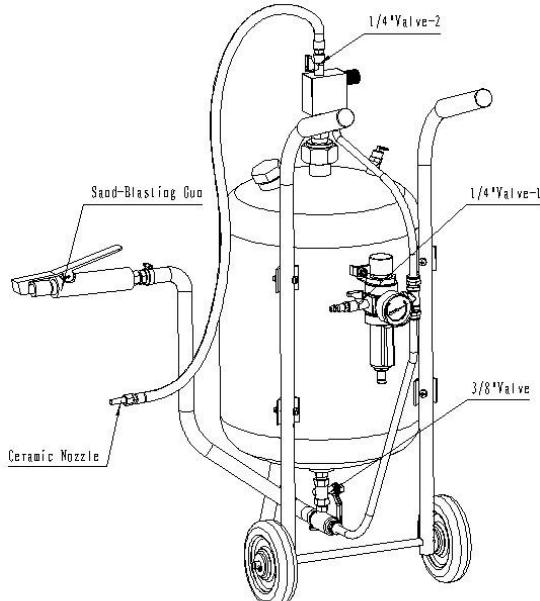

Figure 3
7. For safety, if the soda blaster will be not used at this time, shut off the air supply, turn the 1/4" Valve-1 (Figure 3) to its vertical position, and detach the air supply hose. Slowly reopen the 1/4" Valve-1 to release the trapped air pressure from storage tank. Close the 1/4" Valve-1 (Figure 3)、 the 1/4" Valve-2 (Figure 3) and the 3/8" Valve (Figure 3) to prevent moisture from being drawn into the tank.
13. Always keep the proper air pressure during operation. Please stop operation and stop the connection between the machine and air source, then release pressure from the tank if the safety valve (40) does not release while the pressure is 125psi.
3. The finished product is shown in Figure 3.
1. Attach the male coupler from the compressor to the Male Coupler (30), start compressor and open the 1/4" Valve-1 (Figure 3).
2. When the pressure is around 100 psi, Press and hold Sand-blasting Gun (11) until air is flowing through the gun.
3. With the Sand-blasting Gun open, slowly open the 3/8" Valve (Figure 3) until abrasive material begins to flow out of the Sand-blasting Gun.
4. Adjust the 3/8" Valve (Figure 3) until the desired amount of abrasive material is flowing through Sand-blasting Gun.
- 1 Pressing and holding the Sand-blasting Gun and turn off the 3/8" Valve (Figure 3)
1. Connect air compressor to the Male Coupler (30).
2. Start compressor and open 1/4" Valve-1 (Figure 3).
3. Turn on the 1/4" Valve-2 (Figure 3) to release the media when the pressure exceeds 100 psi.
4. Pick up the Soda Media Nozzle shown Figure 3, towards the sandblasting parts, you can adjust Media Flow Control Knob to increase or decrease the media flow rate. (Clockwise increases, counterclockwise decreases)
Turn the 1/4" Valve-2 (Figure 3) to the closed position.'
1. WARNING! Prior to performing any inspection, maintenance, or cleaning of the Pressurized Abrasive Blaster, turn off the air compressor. Turn the 1/4" Valve-1 (Figure 3) and the 1/4" Valve-2 (Figure 3) to the "OFF" position. Use the Safety Valve (40) to release any remaining air pressure in the Tank (7). Check to make sure the Pressure Gauge reads "0" PSI. Then, disconnect the compressor hose from the Male Coupler (30) of the unit.